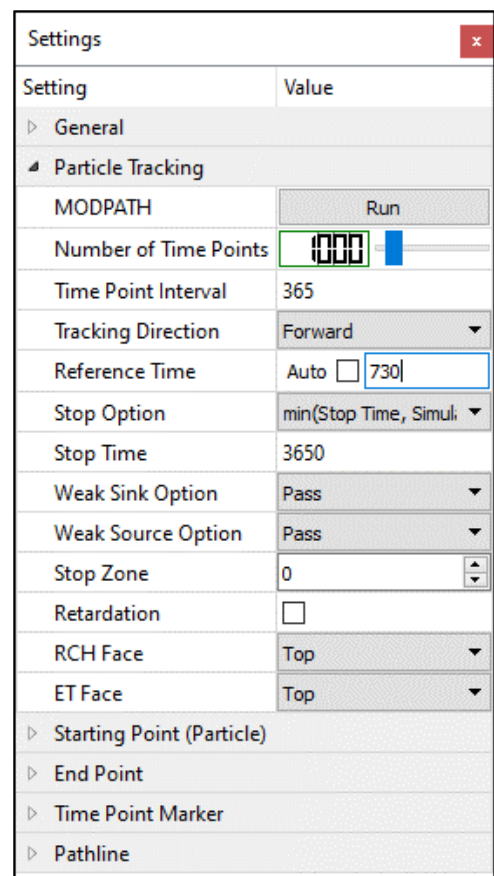

Figure 133. The Particle Tracking group of the Settings window for MODPATH
2. Particle Tracking (Figure 133)